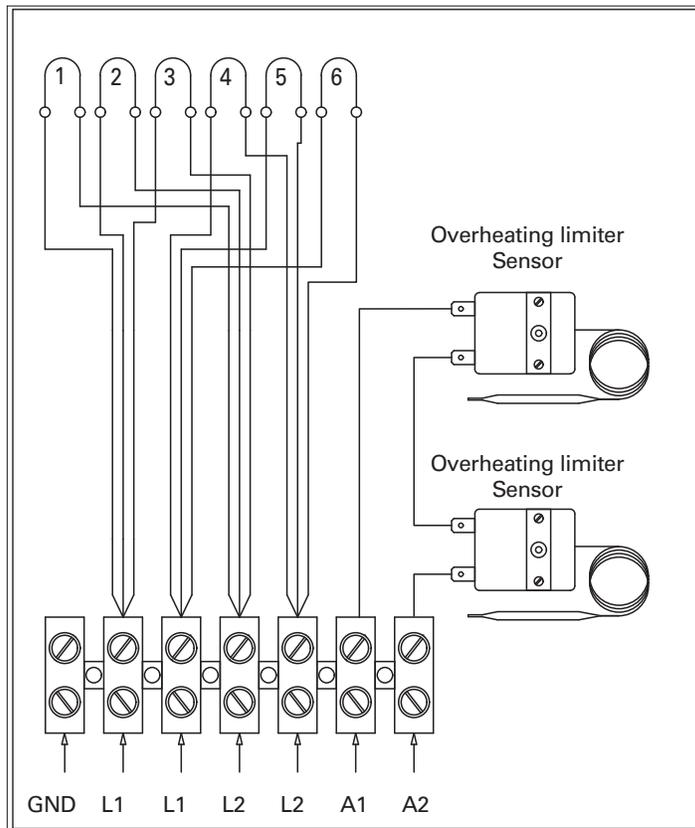

Figure 8. Electrical connections of 240 V 1-phase heaters without contactors (C1000/K10G-U1, C1250/K12.5G-U1, C1500/KG15-U1)
2. See applicable wiring diagram for heater model (figures 8 - 9, see control unit manual for detailed instructions how to connect the heater and the control unit). Heater must be permanently installed (no pigtailed or plugs allowed) and wiring must be done by a licensed electrician, who must follow wiring diagram provided and adhere to local codes. Use proper A.W.G rated wire size and use copper wire suitable for 194°F (91°C) within sauna walls. Use grounding terminals provided in sauna heater and control unit to properly ground the equipment as per NEC and local codes.